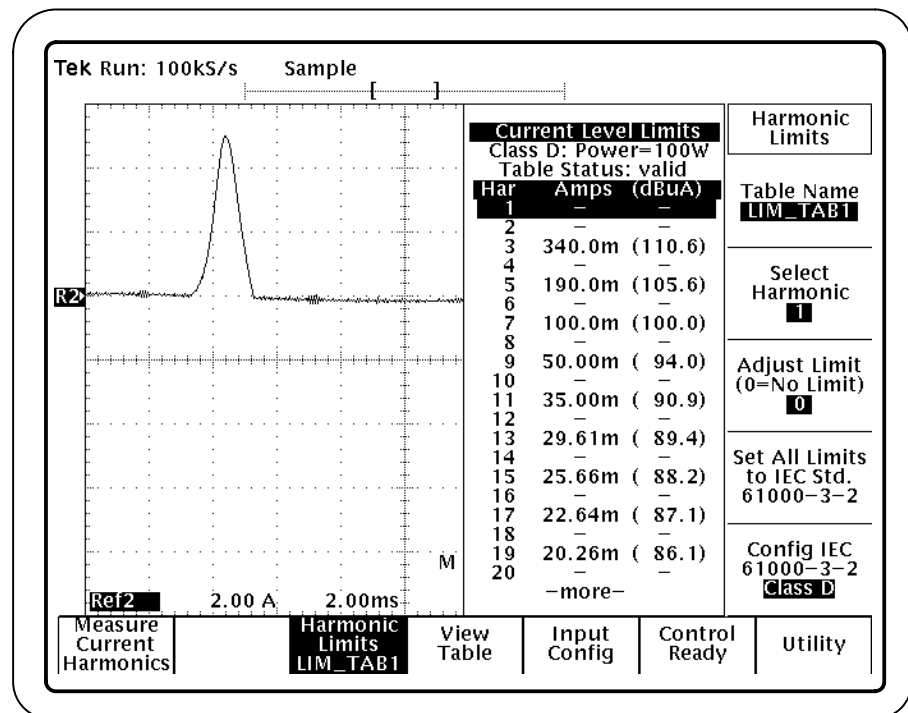

Figure 16: Default table of harmonic limits
3. To set up the IEC 61000-3-2 limits table, refer to Figures 16 through 19, and follow these steps:
Figure 16 shows a default table of harmonic limits values (not used in this lesson) and the Config IEC 61000–3–2 (side) menu item.